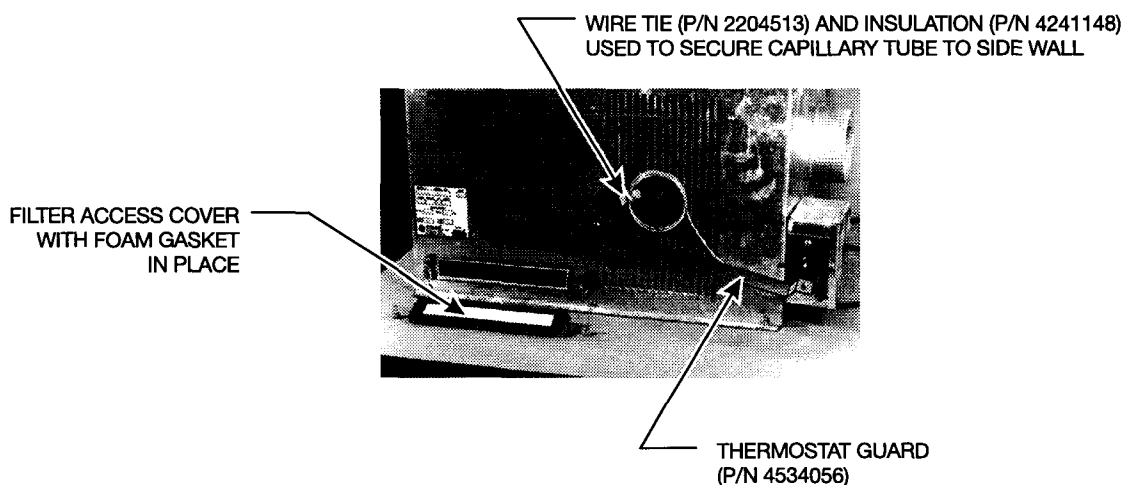

Figure 35
33. Form the thermostat capillary tube as follows: **See Figure 35.**
34. Install the thermostat guard (4534056). Use the lower screw and hole on the left side of the evaporator opening and the lower screw and hole in the thermostat housing box. **See Figure 35.**
35. Remove the filter access cover. Adhere 18 inches of .25 x .50 foam gasket (4311211) around the perimeter and on top of the existing cork, on the cover. **See Figure 35.**